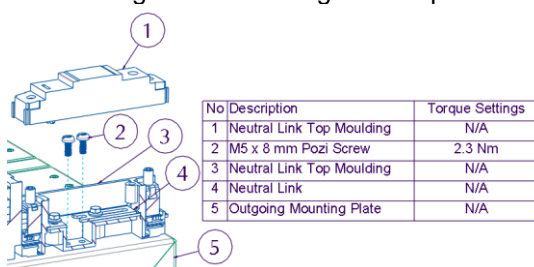

Fig. 3
5. Attach the neutral assembly to the panel mounting plate by using the screws provided. Refer to Fig. 3 for fastening and torque details.